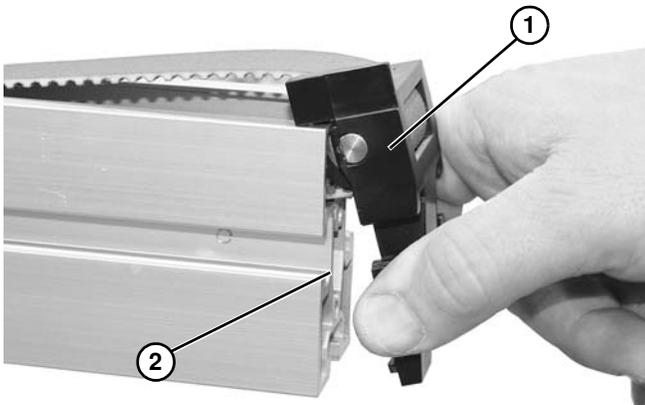

Figure 35
7. Remove the end cap (Figure 35, item 1) from the conveyor (Figure 35, item 2) on both ends.